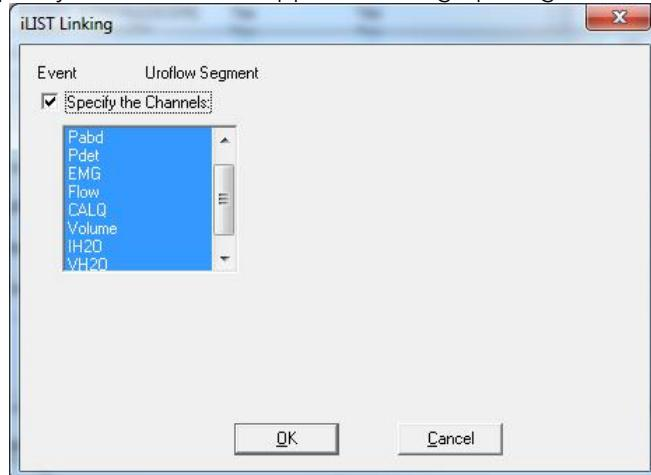

Figure 79: iLIST Linking Window
- Select **Channels** to specify the channels to appear on the graph segment (Figure 79).